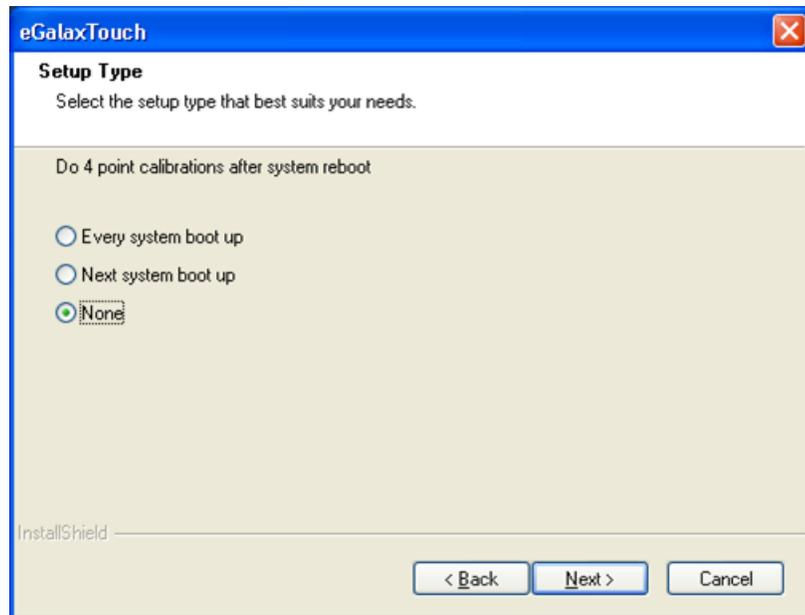

Figure 3-6 4 Point Calibrations Screen
10. In the next screen that appears, select **None** and click **Next** (Figure 3-6).